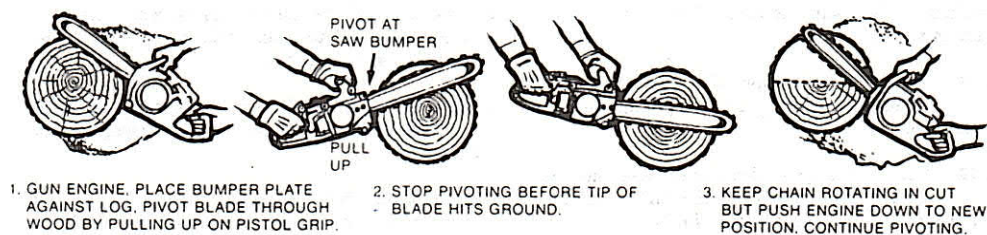

Fig. 14—Pivot Action for Cutting Logs
10.30 The basic technique to be used when cutting logs (bucking) is known as pivot action. See Fig. 14.